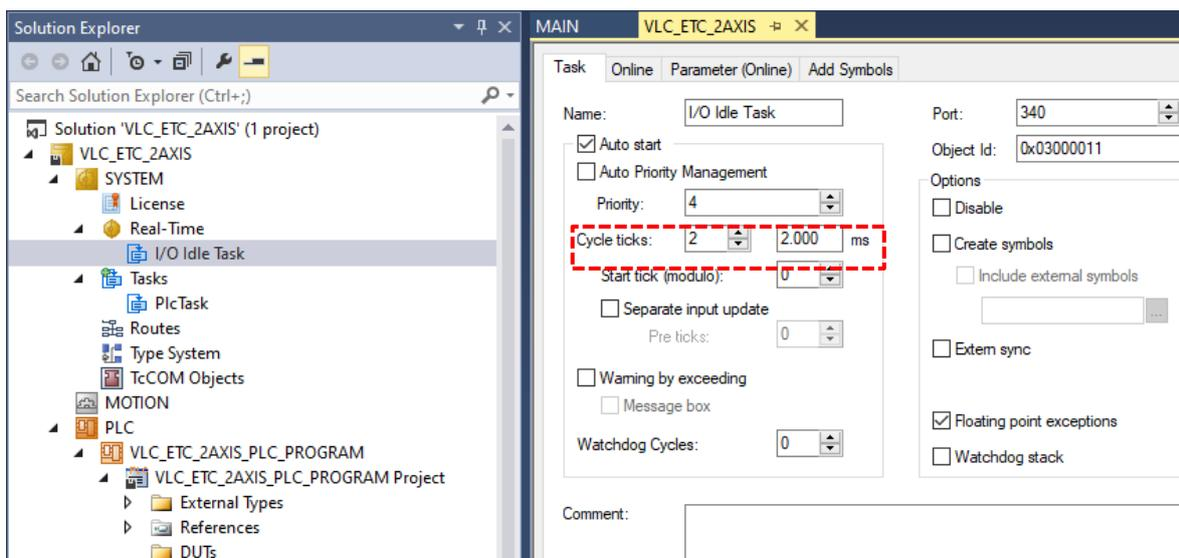

Figure 3.27.
- Select 'I/O Idle Task' as can be seen in Figure 3.27, change the cycle ticks to 2.